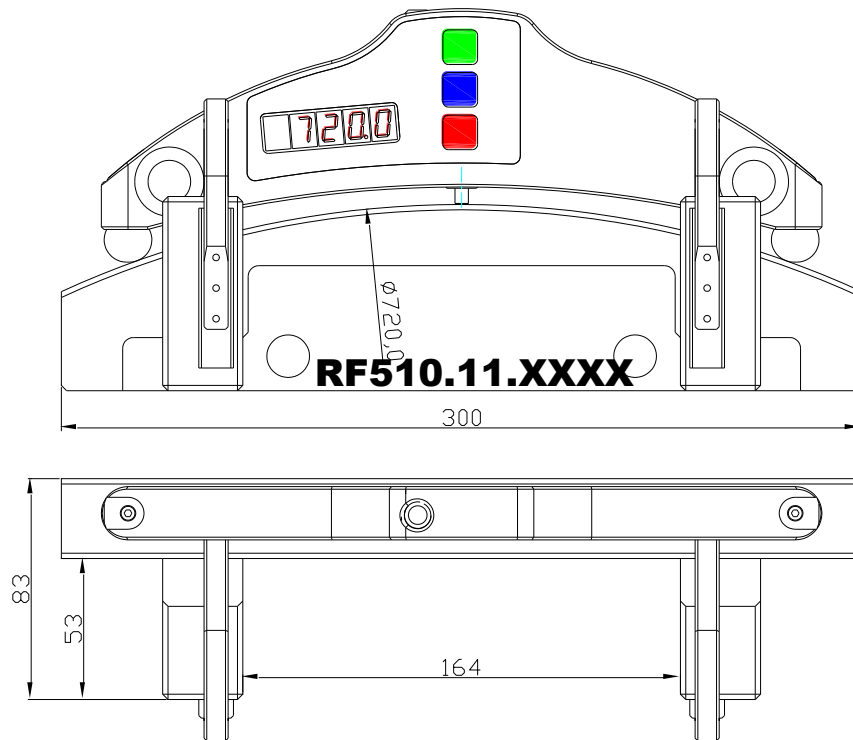

Figure 3
- reference wheel of the known diameter (or Reference wheel block RF510.11.XXXX, figure 3)